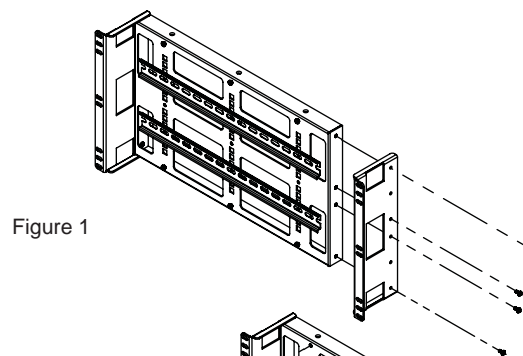

Figure 1
Step 1. Installing Ear Bracket. Placing a 6U ear bracket on right side of the 6U main panel. Align all 4 screw holes on the 6U ear bracket with (4) M4 Nuts on the right side of panel. (Figure 1)